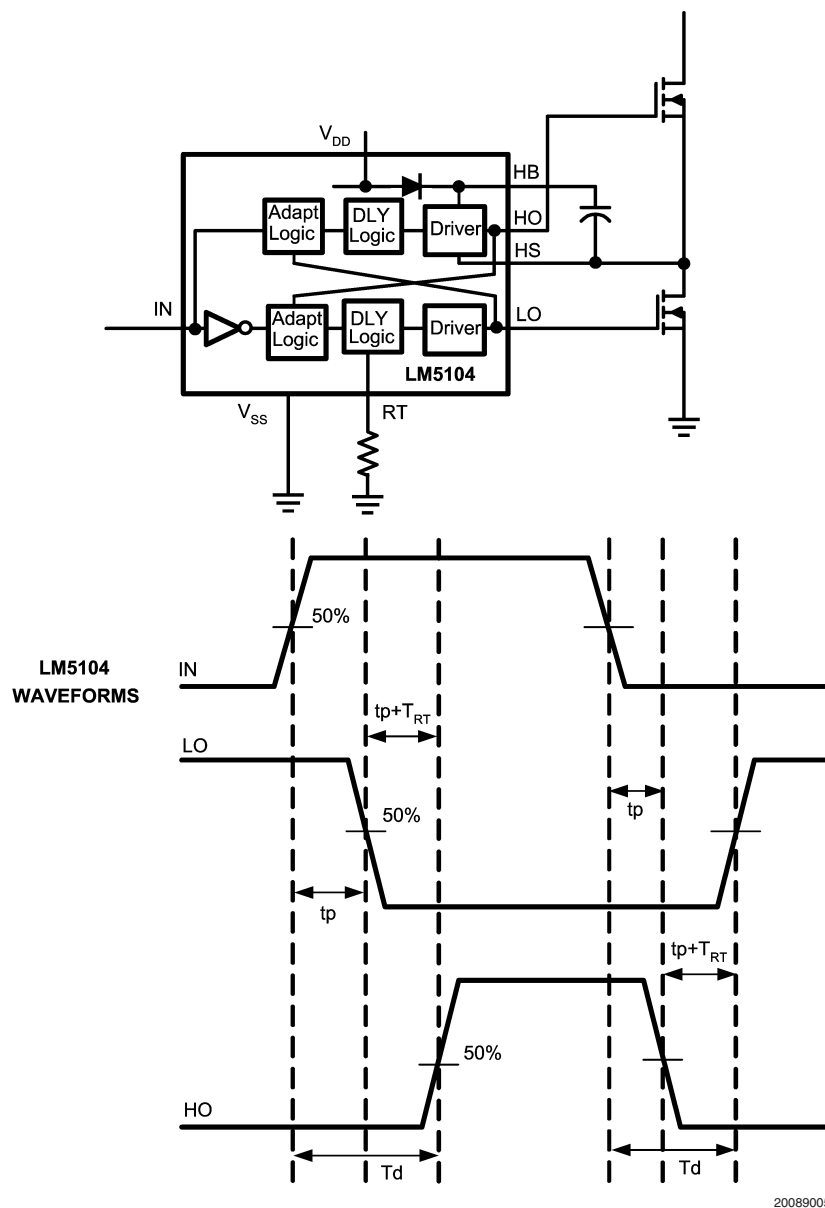

FIGURE 3. Application Timing Waveforms
LM5104 is a high voltage, high speed dual output driver designed to drive top and bottom MOSFET's connected in synchronous buck or half-bridge configuration, from one externally provided PWM signal. LM5104 features adaptive delay to prevent shoot-through current through top and bottom MOSFETs during switching transitions. Referring to the timing diagram *Figure 3*, the rising edge of the PWM input (IN) turns off the bottom MOSFET (LO) after a short propagation delay (t_p). An adaptive circuit in the LM5104 monitors the bottom gate voltage (LO) and triggers a programmable delay generator when the LO pin falls below an internally set threshold ($\approx V_{DD}/2$). The gate drive of the upper MOSFET (HO) is disabled until the deadtime expires. The upper gate